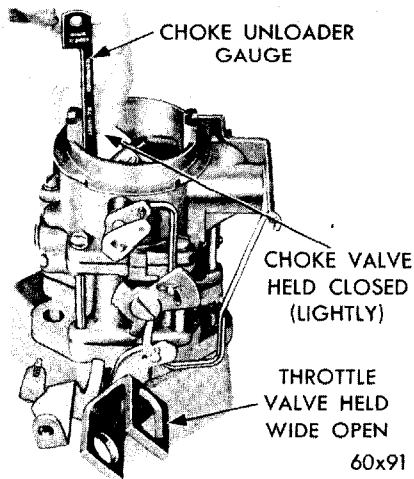

Fig. 17—Checking Choke Unloader Setting
- (1) Hold the throttle valve in the wide open position, insert Tool T109-34 or a 9/64" drill between the upper edge of the choke valve and the inner wall of the air horn, as shown in Figure 17.
- (2) If no drag is felt, or if too much drag is apparent, bend the unloader tang on the throttle lever, until correct clearance has been obtained.